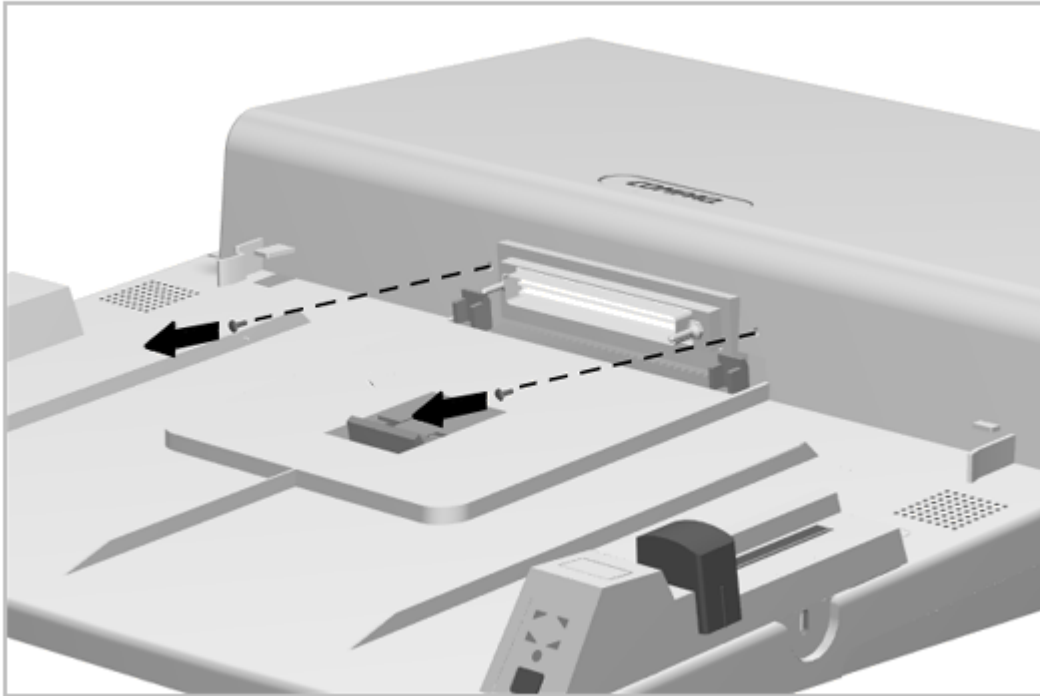

Figure 6-14. Removing the Computer Connector Screws
2. Remove the two shoulder screws from the computer connector as shown in Figure 6-14.